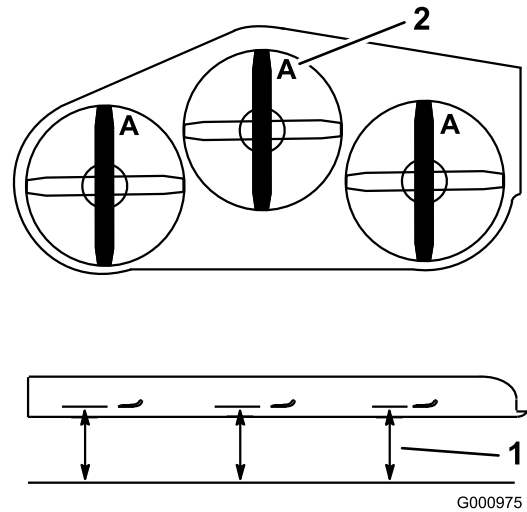
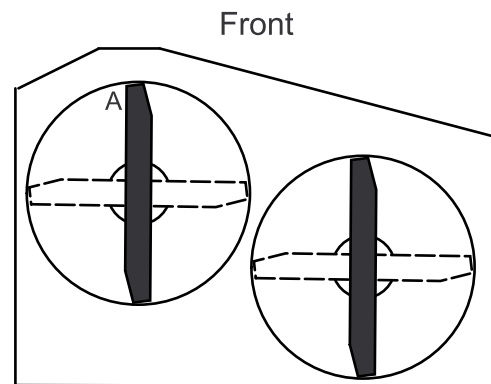

Figure 69
Figure 70
3. With the machine on level surface, position one blade front-to-rear. Measure at A and from level surface to the cutting edge of the blade tips (Figure 69). For 36 inch mower decks use Figure 70.